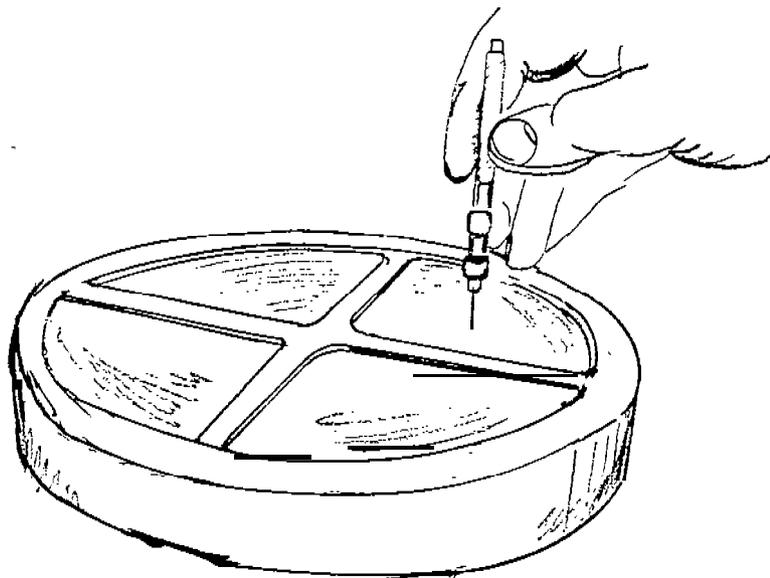

Figure 4. Wire Gauge Cannot Pass Through Flame Arrester
7. ( ) A 0.018 inch wire gauge cannot pass through the openings of the flame arrester core as shown in Figure 4. The procedure for making this inspection (dated August 5, 1985) is attached.